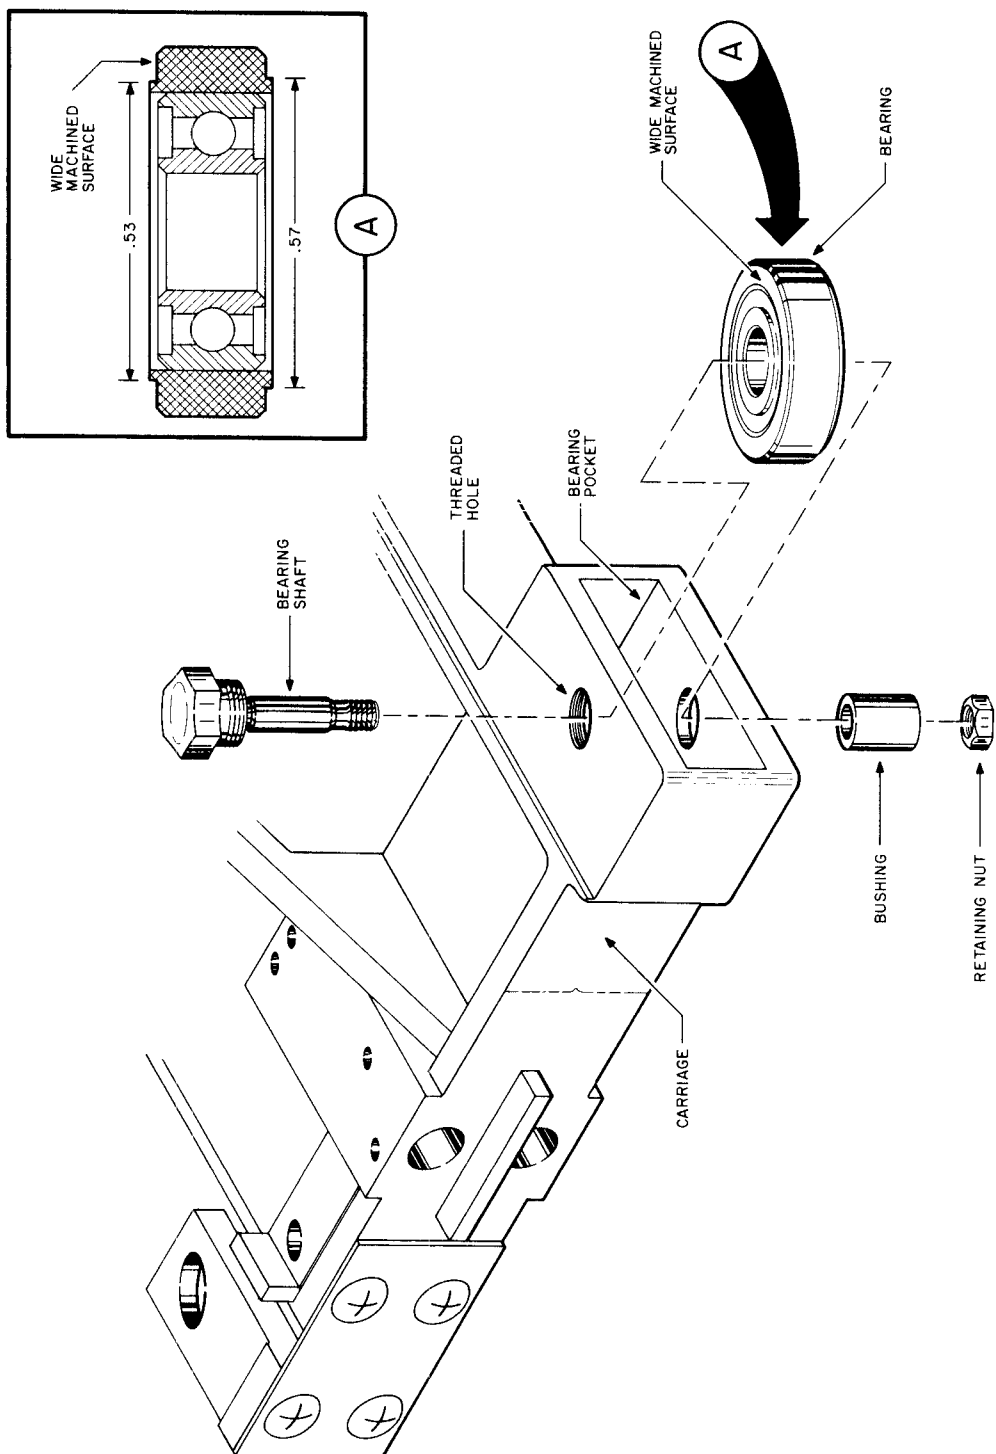

Figure 5-6 Carriage Bearing Assembly Removal
3. Using a 3/8-in. nut driver, loosen the bearing shaft nut (Figure 5-6) one-half turn.
1. Insert the bearing into the bearing pocket. Ensure that the widest machined surface of the bearing (Figure 5-6 Insert) is towards the threaded hole in the pocket.